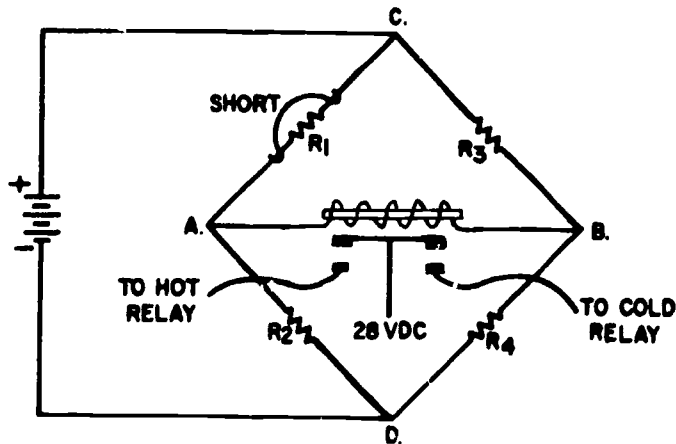

Figure 14.
c. What if resistor R1 were shorted in the illustration below? Remember, if the bridge is unbalanced, the current will always take the Z pattern from the lowest voltage potential to the highest. In figure 14 below, use the green pencil to trace out your Z pattern, and then answer the questions about the circuit.